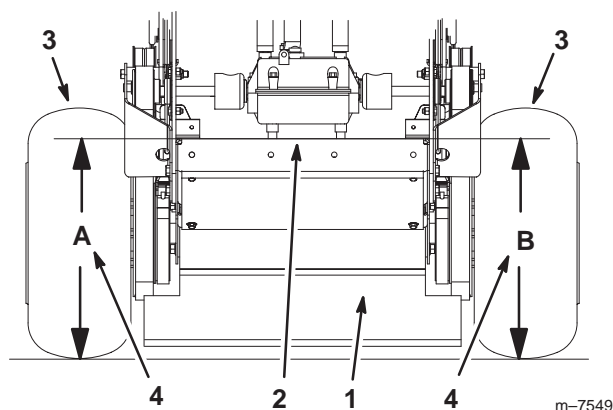

Figure 51
4. Measure engine deck height at location **A** (Fig. 51).
5. Measure engine deck height at location **B** (Fig. 51).